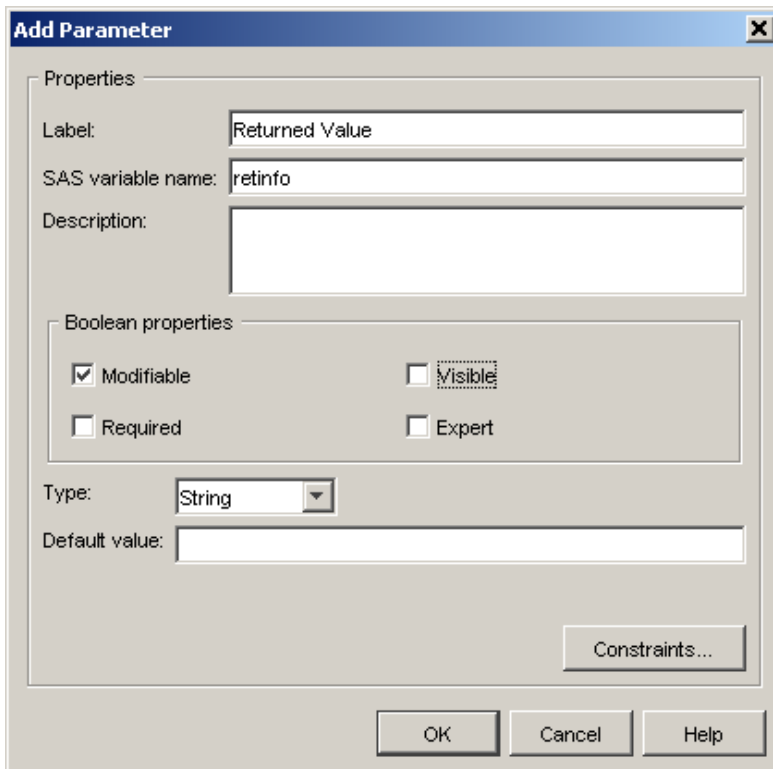

Figure 12. Add retinfo parameter
- f. Finally, add the *retinfo* parameter as in Figure 12. This parameter is for the information returned from your SCL code. This information can be displayed or used in other programs. Click OK when done.